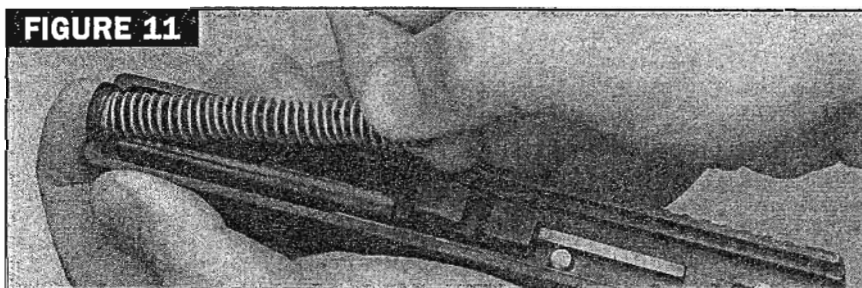

FIGURE 11
- Remove the recoil spring assembly (Fig. 11).